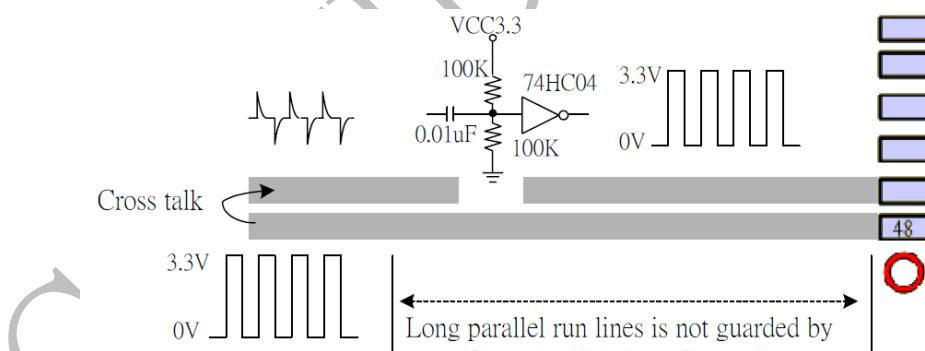

Figure.14 Crosstalk between S/PDIF-IN and S/PDIF-OUT traces
1. Crosstalk is an undesirable feature with S/PDIF signals. It causes a disturbance between S/PDIF-IN and S/PDIF-OUT signals. Mutual coupling mechanisms will be formed if S/PDIF-IN and S/PDIF-OUT are parallel, the mutual capacitance and mutual inductance between traces have capacitive and inductive coupling of electromagnetic field generated by S/PDIF-OUT. Figure 14, indicates the coupling energy from S/PDIF-OUT may interfere S/PDIF-IN operation.